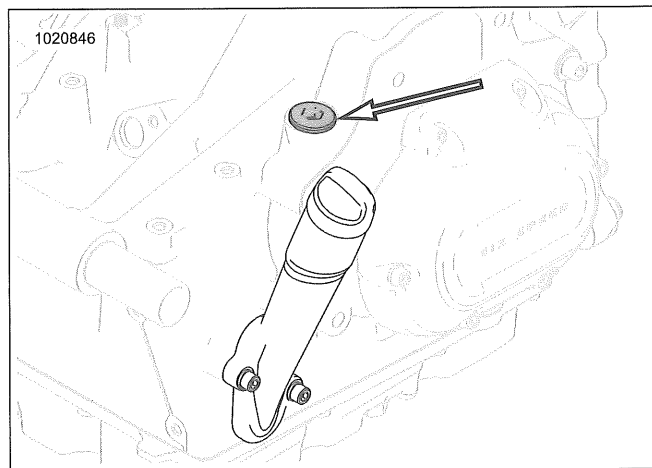

Figure 2-9. Transmission Filler Plug/Dipstick Location
3. See Figure 2-9. Remove transmission filler plug/dipstick. Wipe dipstick clean.
1. See Figure 2-9. Remove transmission filler plug/dipstick.